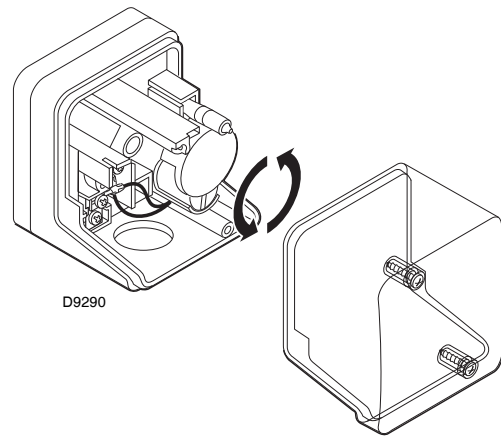

Fig. 46
- Adjust the low gas pressure switch to the start of the scale (Fig. 46).
Adjust the minimum gas pressure switch after having performed all the other burner adjustments with the pressure switch set at the start of the scale (Fig. 46).